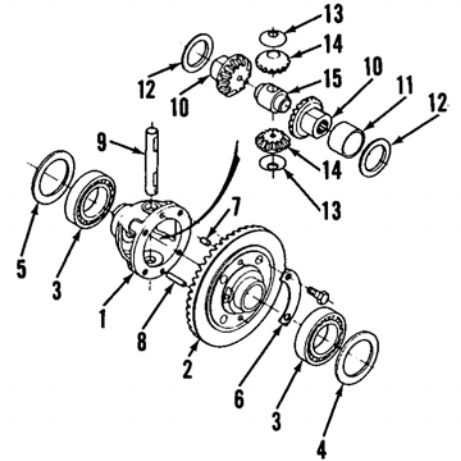

Fig. 80—Exploded view of rear axle differential and bevel ring gear typical of all models.
lift cover. Disconnect and remove differential lock and brake rods. Remove control rod from control valve actuating lever. Remove three cap screws retaining control valve to lift cover, then separate components being careful not to drop the two "O" rings. Remove bracket mounted to lift cover cylinder head. Remove top link bracket at rear of lift cover. Remove the nine cap screws securing lift cover to center housing, then tap lift cover upwards using a suitable mallet. Note that lift cover must be lifted upward because of dowel pins located in center housing. Remove the ten cap screws retaining left and right axle case assemblies to center housing. Tap axle shaft with a suitable mallet to break components apart, then carefully extract assemblies. Remove left (18—Fig. 81) and right (17) differential bearing holders and withdraw shims (4 and 5—Fig. 80). Lift out differential and bevel ring gear assembly from center housing.
Installation is reverse order of removal. Renew all gaskets and "O" rings. Backlash between bevel ring gear and bevel pinion should be 0.1-0.2 mm (0.004-0.008 inch) with an allowable limit of 0.4 mm (0.016 inch). Adjust by varying thickness of shim (4 or 5—Fig. 80) until recommended backlash is attained. Tighten cap screws securing left and right axle case to center housing to 48-56 N·m (35-41 ft.-lbs.) torque for M10 cap screws and 77-90 N·m (57-67 ft.-lbs.) torque for M12 cap screws. Tighten cap screws securing lift cover to center housing to 25-29 N·m (19-22 ft.-lbs.) torque. Tighten cap screws mounting top link bracket to lift cover to 41-47 N·m (30-35 ft.-lbs.) torque.
**76. OVERHAUL.** Use a suitable bearing puller and push plate to withdraw left and right case bearings (3—Fig. 80). Bend ears of lock plate (6), then remove the four cap screws securing bevel ring gear (2) to differential case (1). Tap components with a suitable mallet to break apart, then complete separation. Extract retaining pin (8), then slide cross-shaft (9) from differential case. Complete disassembly with reference to Fig. 80.
beyond limits adjust by varying thickness of thrust washer (12—Fig. 80). Thrust washer (12) is available in thicknesses of 0.7-0.8 mm (0.0276-0.0315 inch), 0.9-1.0 mm (0.0367-0.0394 inch) and 1.1-1.2 mm (0.0433-0.0472 inch). Correct thickness of thrust washer (13) is 0.9-1.0 mm (0.0367-0.0394 inch).